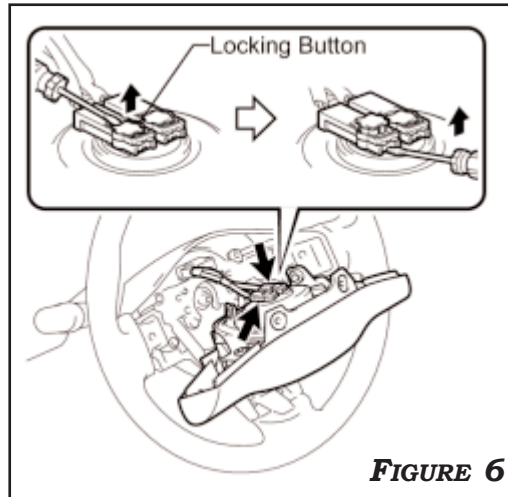

FIGURE 6
2. REMOVE GROUND TERMINAL AND DUMMY HORN/CRUISE CONNECTOR FROM STEERING WHEEL AND DISCARD. **IF GROUND HARNESS FOR HORN IS PRESENT ON A SEPARATE VEHICLE CONNECTOR, LEAVE HORN WIRE CONNECTED.** UTILIZE SMALL SCREWDRIVER TO REMOVE AIRBAG CONNECTORS AS ILLUSTRATED IN **FIGURE 6**.